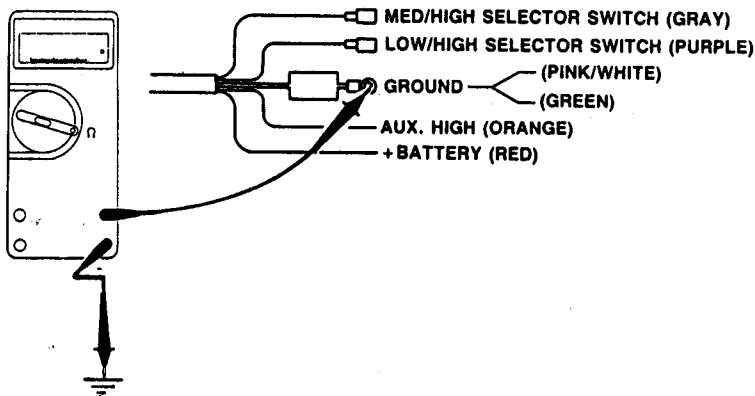

FIG. 5
**Correction:** PINK/WHITE wire is connected to ground with the GREEN wire. If not connected to ground, brakes will not operate. VOM reading when not connected should be +5 VDC (Fig. 5).